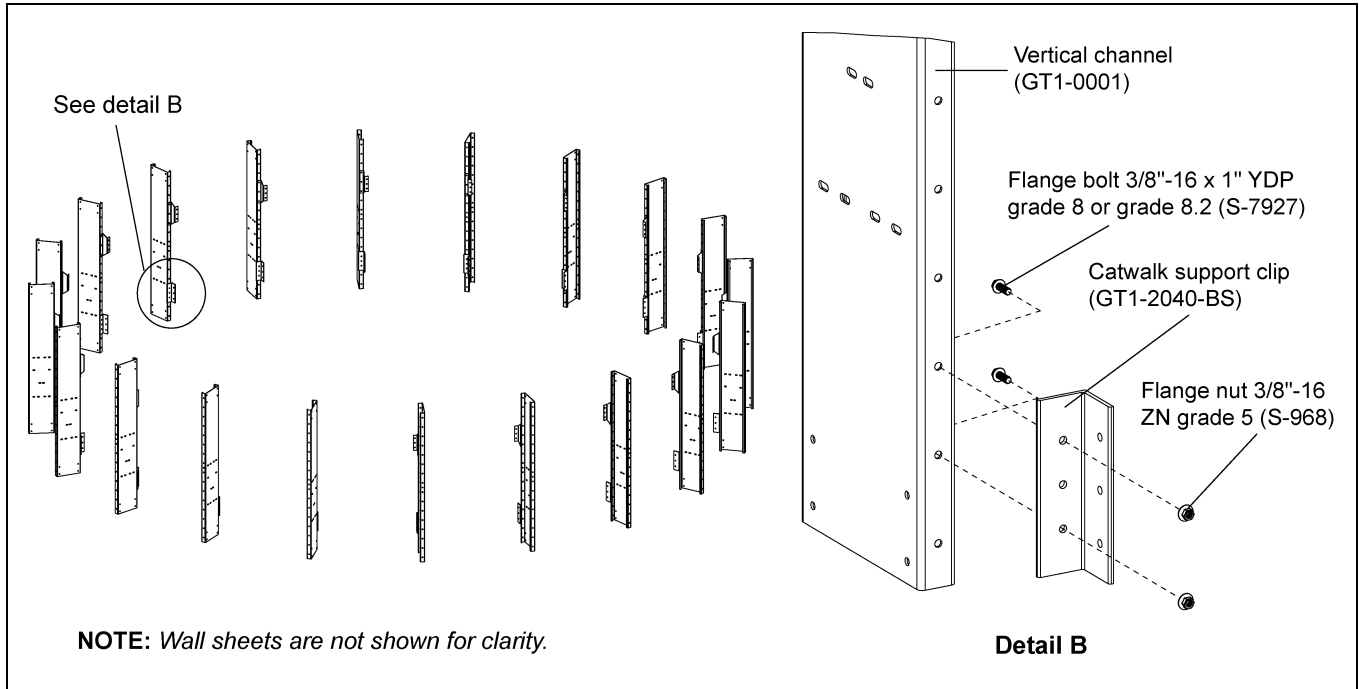

Figure 5B
1. Install catwalk support clips (GT1-2040-BS) to vertical channels (GT1-0001). Support clip can be installed on each vertical channel as the inner wall sheets are installed using 3/8"-16 x 1" YDP grade 8 or grade 8.2 bolts (S-7927) and 3/8"-16 ZN grade 5 nut (S-968). (See Figure 5B.)